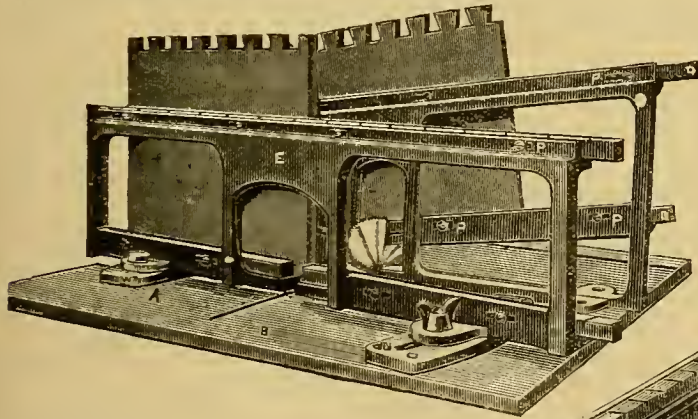
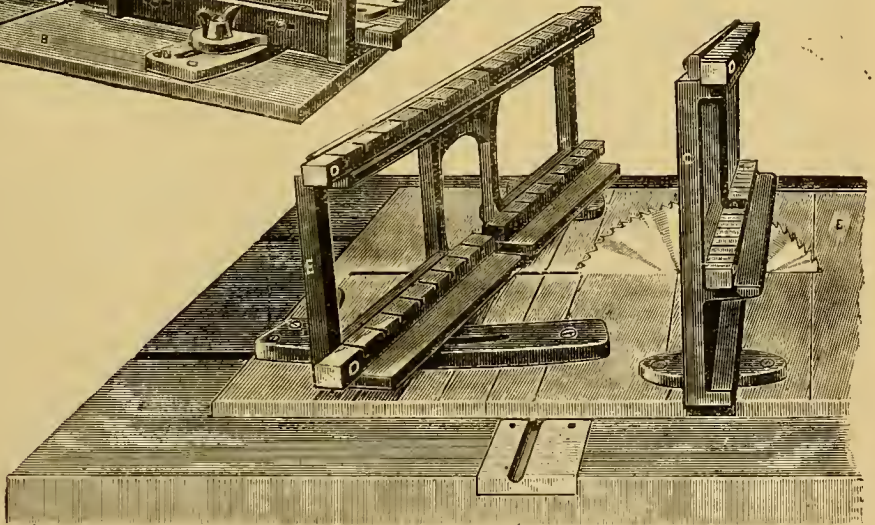

FIG. 3.—BACK VIEW OF FIG. 2.
FIG. 2.—FRONT VIEW OF THE DOVETAILING MACHINE FIXED ON THE CIRCULAR SAW TABLE.
6. **BRITANNIA COMPANY'S PATENT DOVE-TAILING MACHINE.**—Some months since, I intimated to the readers of *AMATEUR WORK* that such a machine was in course of preparation, and I am now in a position to give illustrations and description. The appliance is quite simple and easy to use, and, as it enables an amateur to cut a perfect dovetail or any number of dovetails with quickness and precision, there is little doubt that all amateur mechanics who possess a circular saw will add this useful appliance to their list of tools. Fig. 1 represents the appliance in use, Fig. 2 shows a front view of it, Fig. 3 represents the two parts of it side by side. The two parts of the joint are cut on the two frames in Fig. 3; the mortises being cut on the inclined frame and tenons on the horizontal frame. Both frames are mounted on a board, which slides backwards and forwards on the table of the saw, parallel with the plane of the saw, which passes through a slot in the board. If the workman is cutting the mortises he clamps the inclined frame to the board at right angles to the saw. He then places the timber upon the frame holding a gauge (Fig. 1) against one side of it, the end of the gauge taking into a mark of a scale on the frame. He then pushes the board forward, carrying the timber over the saw and cutting a gate through it. He then returns the